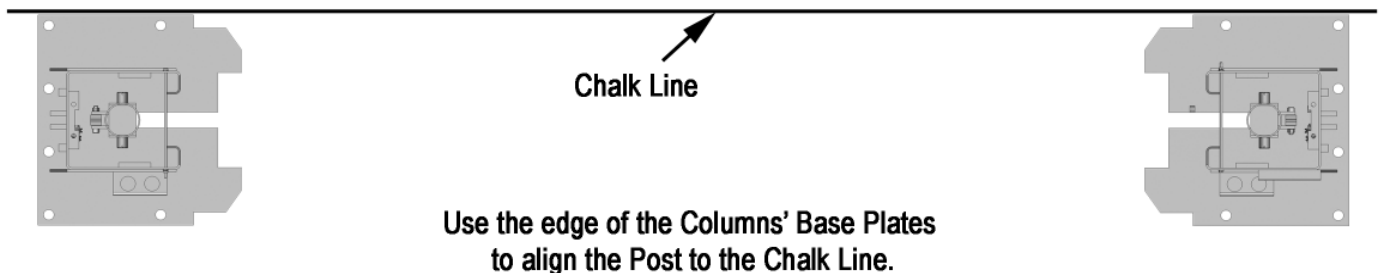

Fig 5.1
4. After the Column locations are properly marked, use a chalk or crayon to make an outline of the Column on the floor at each location using the Column base plates as a template. (See Fig 5.1)